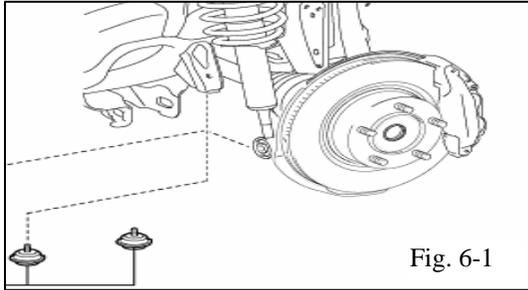

Fig. 6-1
- (b) Using the supplied front hardware kit, apply “RITE-LOC” to each of the 4 socket cap screws, and install the new TRD bump stops to both lower control arms (install 4 total) and torque to **43 N·m (442 kgf·cm, 32 ft·lbf)** (Fig. 6-1)